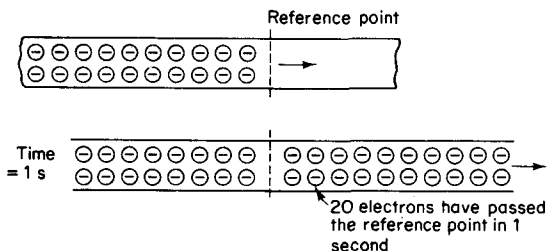

Fig. 2.96 D.C. current flow. The electrons flow in one direction only
**Direct current (d.c.).** The simplest form of direct current is that obtained from a cell where the electrons flow from the negative terminal to the positive terminal. *The current flows in one direction only* and the amount of current flowing is measured by counting the number of electrons which flow past a point in the circuit in 1 second (Fig. 2.96).